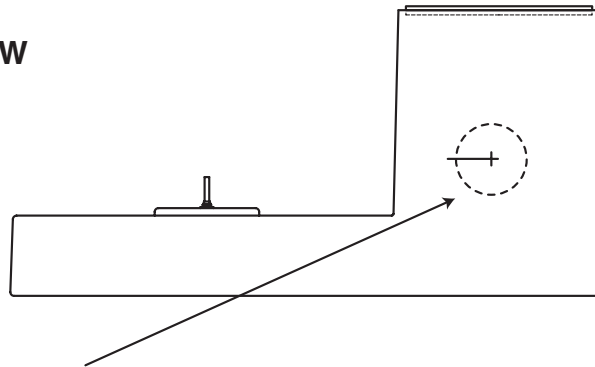

Fig. 1
13. If additional fixture(s) are being added to your installation, a 2" rubber pipe seal must be inserted in the tank Refer to Fig. 1 for location.
Note: The bottom of the additional fixture, a 3" diameter hole, must be 5" minimum above the base of the tank as shown in Figure 1.